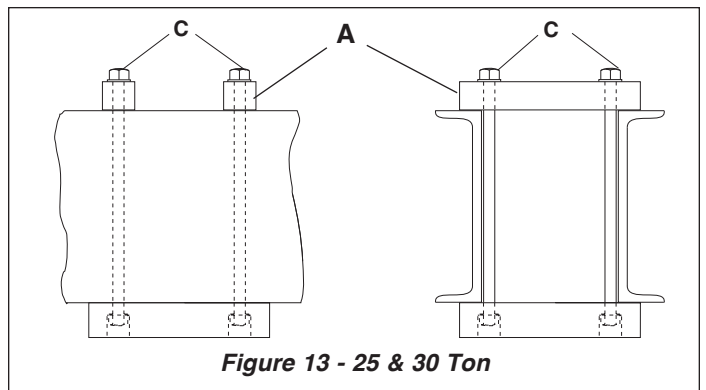

Figure 13 - 25 & 30 Ton
1. Loosen, DO NOT REMOVE, the capscrews (B) located at the top of the press frame.
2. Slide the cylinder mounting block assembly (A) to the desired position on the press frame.
3. Tighten the capscrews (B).
7.2 25 & 30 Ton Models: see Figure 13